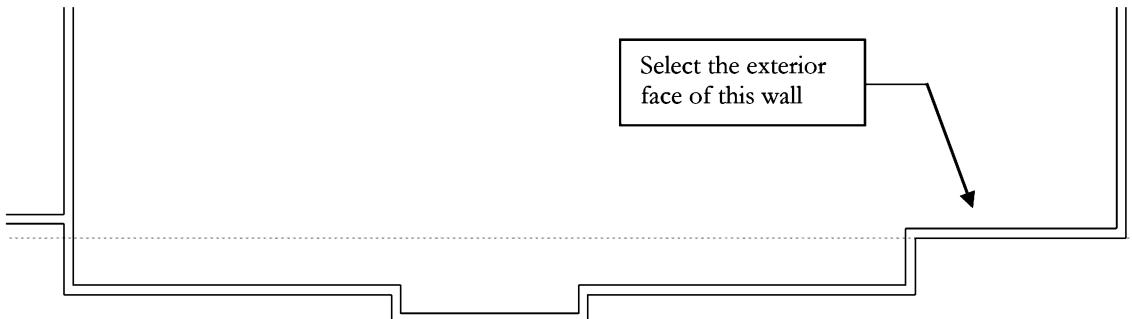

FIGURE 5-2.5 Align tool: wall selected
9. Select the exterior face of the horizontal wall you just modified: Set *Prefer* to **Wall Faces** on the *Ribbon* (Figure 5-2.5). You should notice a temporary dashed line appear on screen. This will help you to visualize the reference plane.